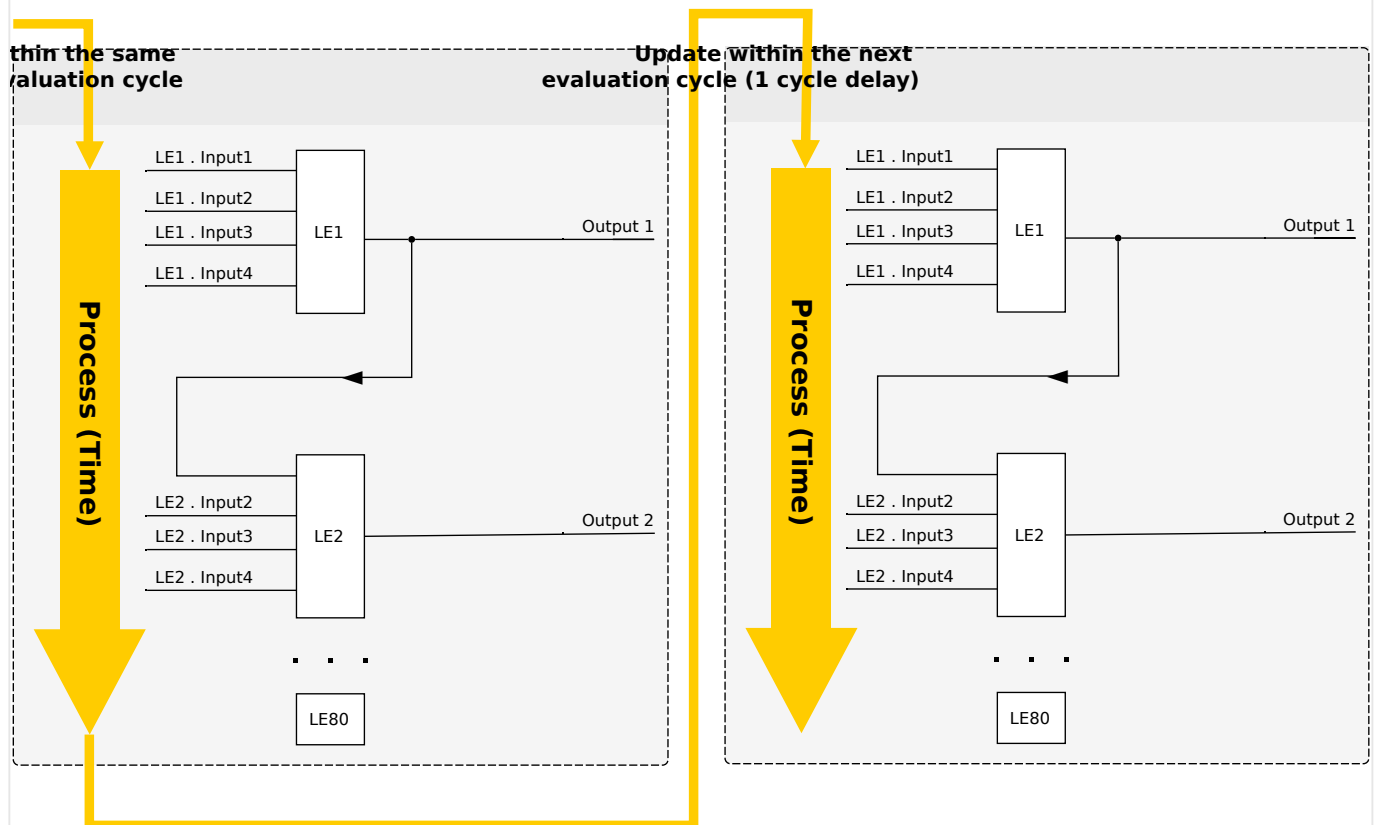
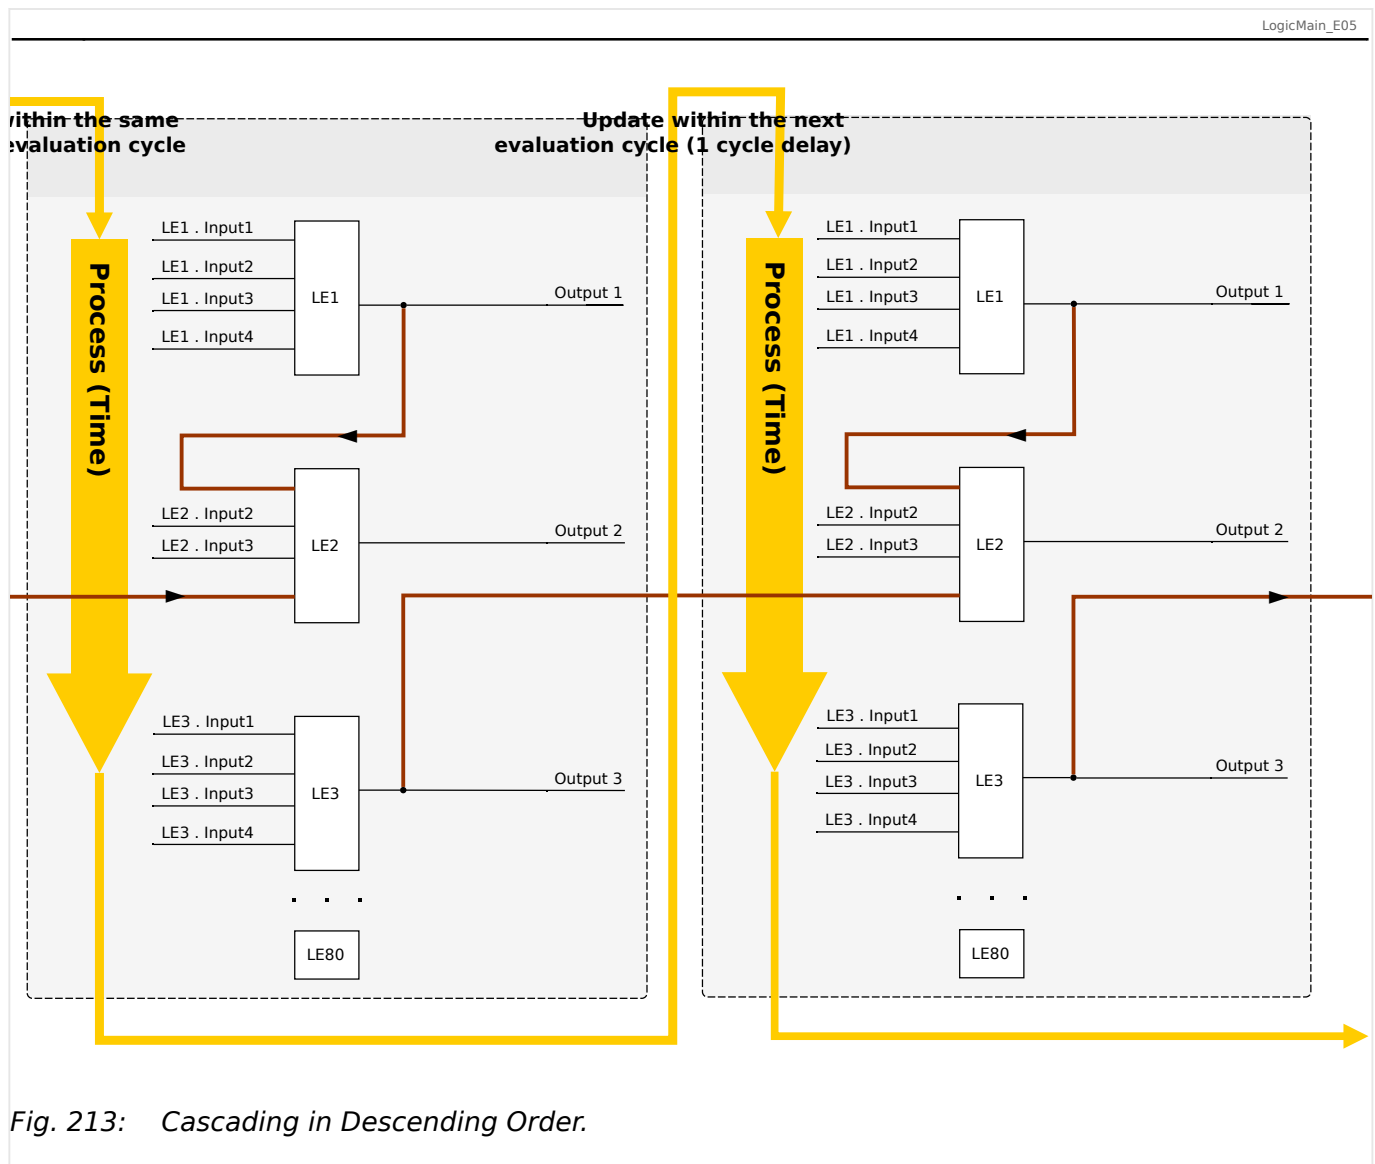

Fig. 212: Cascading in Ascending Order.
Fig. 213: Cascading in Descending Order.
- **Ascending** sequence means that some output is fed into the input of a logic equation with **higher** number. For instance, diagram ↪Fig. 212 below shows an example where the result of Logic Equation LE1 is used as an input of Logic Equation LE2.
- **Descending** sequence means that some output is fed into the input of a logic equation with **lower** number. For instance, diagram ↪Fig. 213 shows an example where the result of Logic Equation LE3 is used as an input of Logic Equation LE2.
Both ascending and descending sequences may be used and combined one with the other, with no immediate difference. However, due to the evaluation of all equations in ascending order the actual run-time values that are fed in at the input of an equation will have a different “age”, as is shown in ↪Fig. 212 and ↪Fig. 213 below.
In the example shown in Fig. 213 above, “Logic Equation 2” uses the output states of two other equations, “Logic Equation 1” and “Logic Equation 3”. The result of “Logic Equation 1” is used in ascending order and has therefore been evaluated within the same process cycle. The result of “Logic Equation 3” is used in descending order and has therefore been evaluated in the previous process cycle.